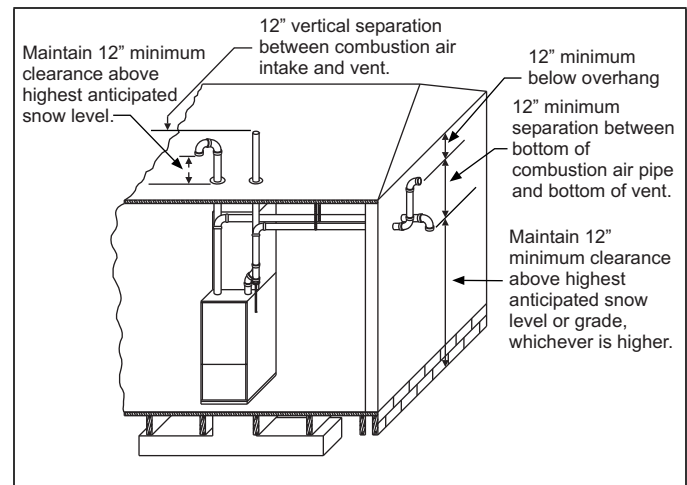

FIGURE 33: Termination Configuration - 2 Pipe
7. Direct vent systems must be installed so the vent and the combustion air pipes terminate in the same atmospheric zone. Refer to Figures 33 or 34.